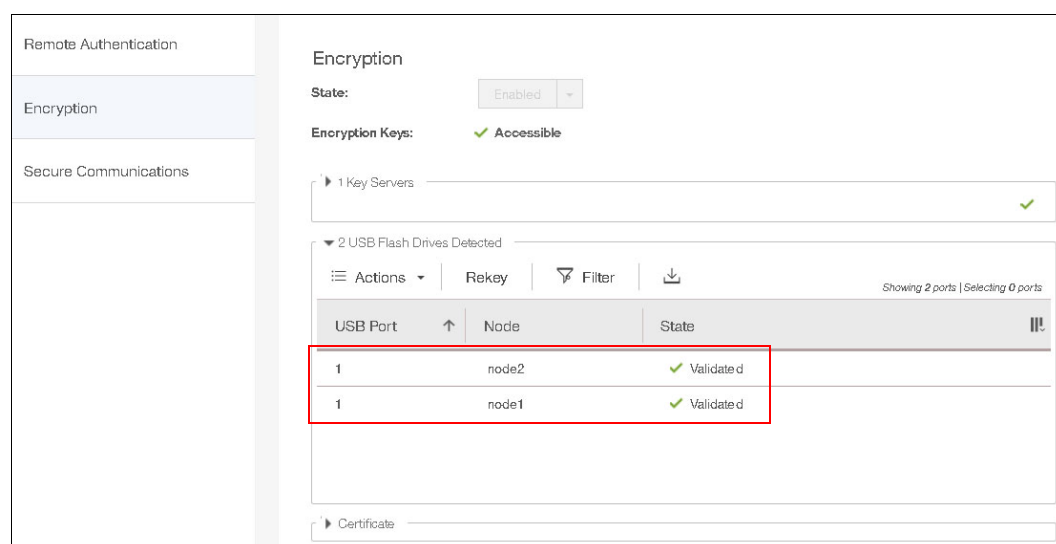

Figure 7-70 Attached USB drives are validated
4. The Encryption window shows all connected USB drives as validated, (see Figure 7-70), which indicates that the encryption key on this USB drive is valid to unlock the FlashSystem 900 after a full power cycle.